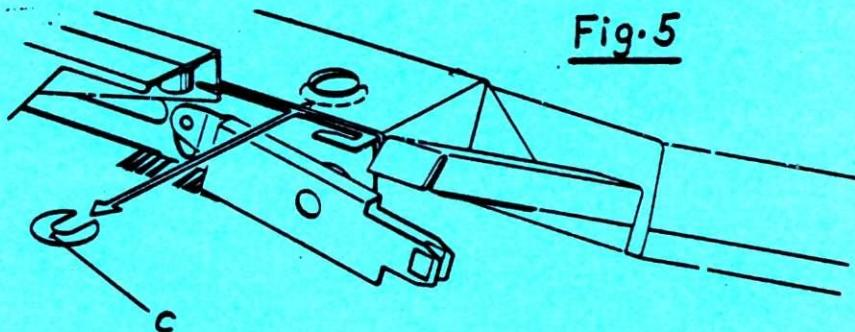

Fig.5
- If the feeding eyelet is placed too high, distance washers C (Fig. 5) have to be inserted according to Fig. 5.
- If the feeding eyelet is placed too low, distance washers C (Fig. 5) have to be removed according to Fig. 5.